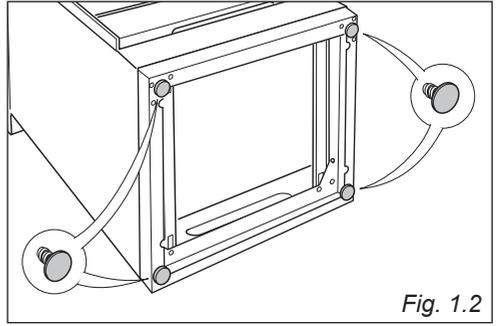

Fig. 1.2
- Place the cooker on its back as shown in the figure 1.2.